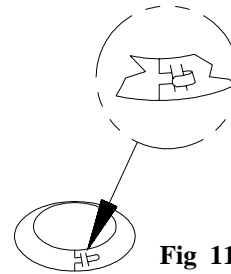

Fig 11
f. Wrap the Collar of the Attic Insulation Shield around the chimney and fasten it loosely. Slide the Collar down to meet the Attic Insulation Shield. Slip the tab through the adjacent slot and fold it back to tighten and secure the Collar (Fig 11).